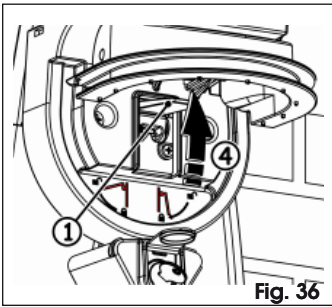

Fig. 36
3. Pull the release lever until it stops, (Fig. 36 ref. ①)